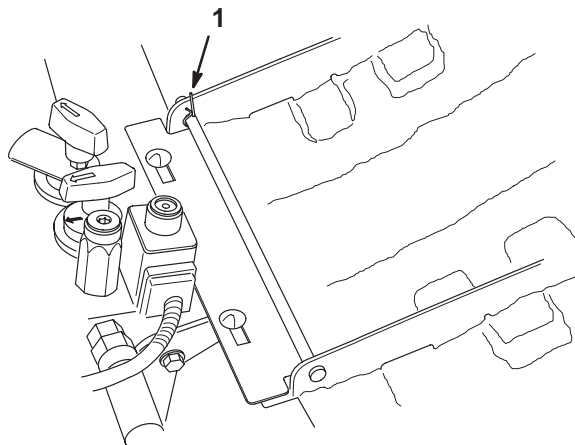

Figure 47
2. Remove the cotter pin securing the hood pivot to the mounting brackets (Fig. 47).